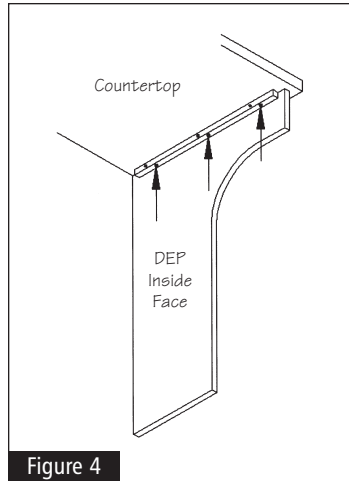

Figure 4
- 3** Position and attach the DEP to the countertop using (3) 1-1/4" wood screws through the wood mounting strip. Be sure not to attach screws in the same locations where the screws were attached in Step 2. See Figure 4.